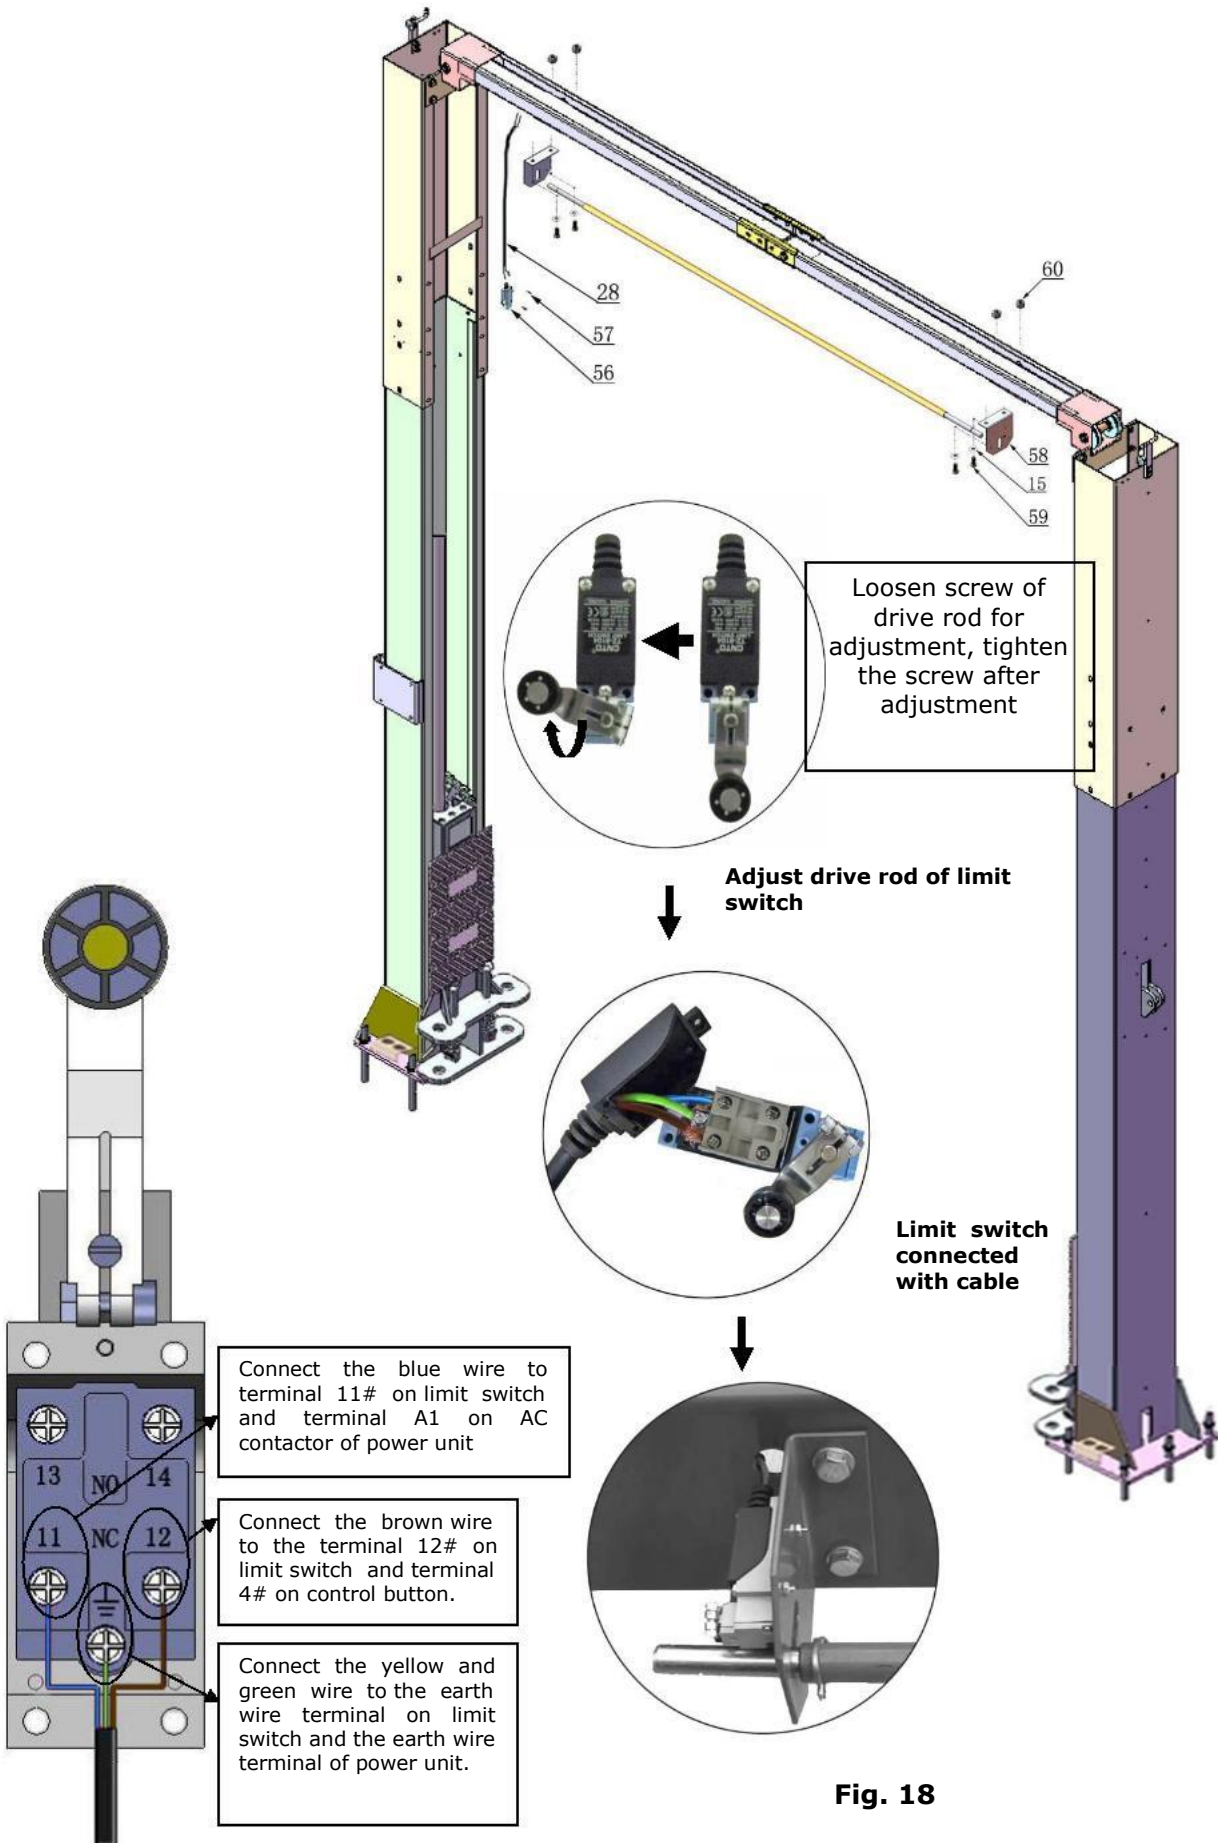

Fig. 18
H. Installing the limit switch control bar and limit switch (See Fig. 18).